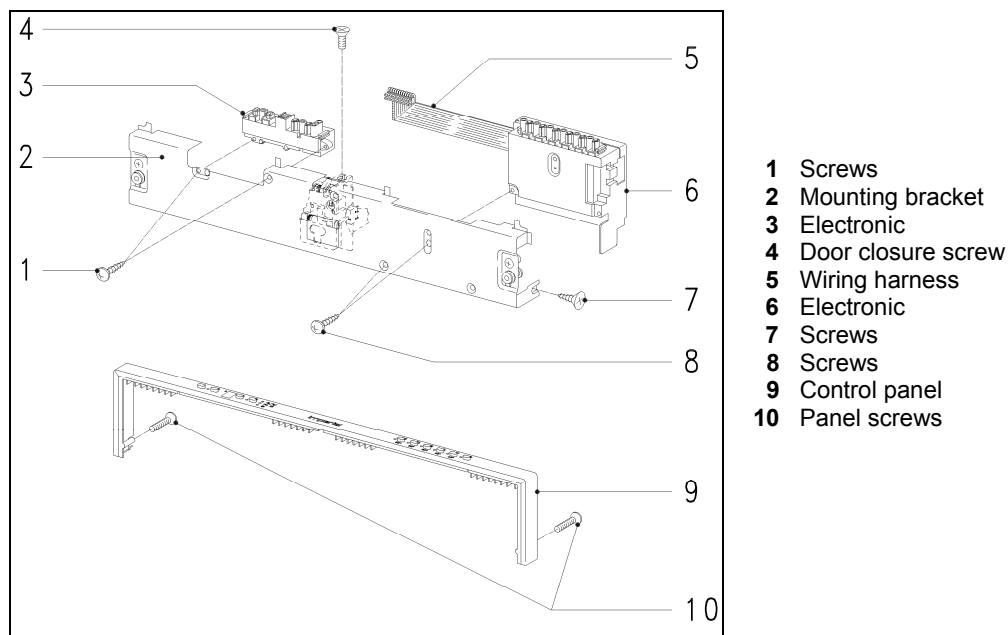

Figure 5-38: Fully Integrated (Vi) Control Panel
2. Hold the control panel (Figure 5-38, Item 9) while removing the interior screws (Figure 5-38, Item 10).